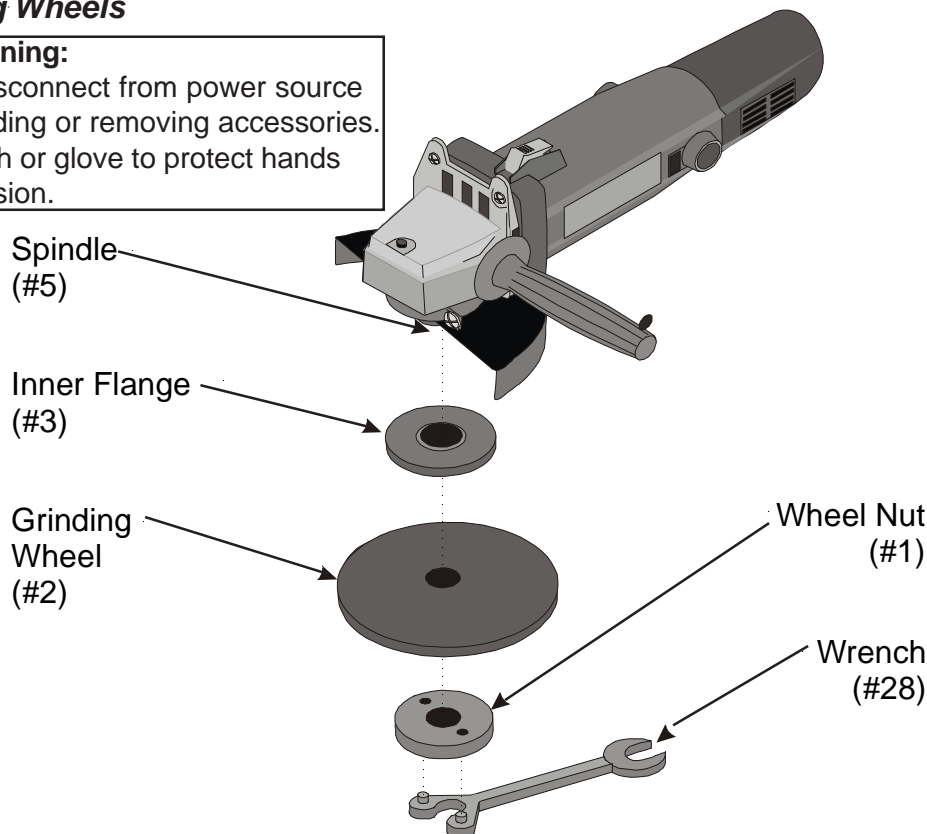

Figure 2 — Installing Wheels
Step 1: Using the WRENCH (#28) (refer to Figure 2), loosen the WHEEL NUT (#1) by turning it counter clockwise.